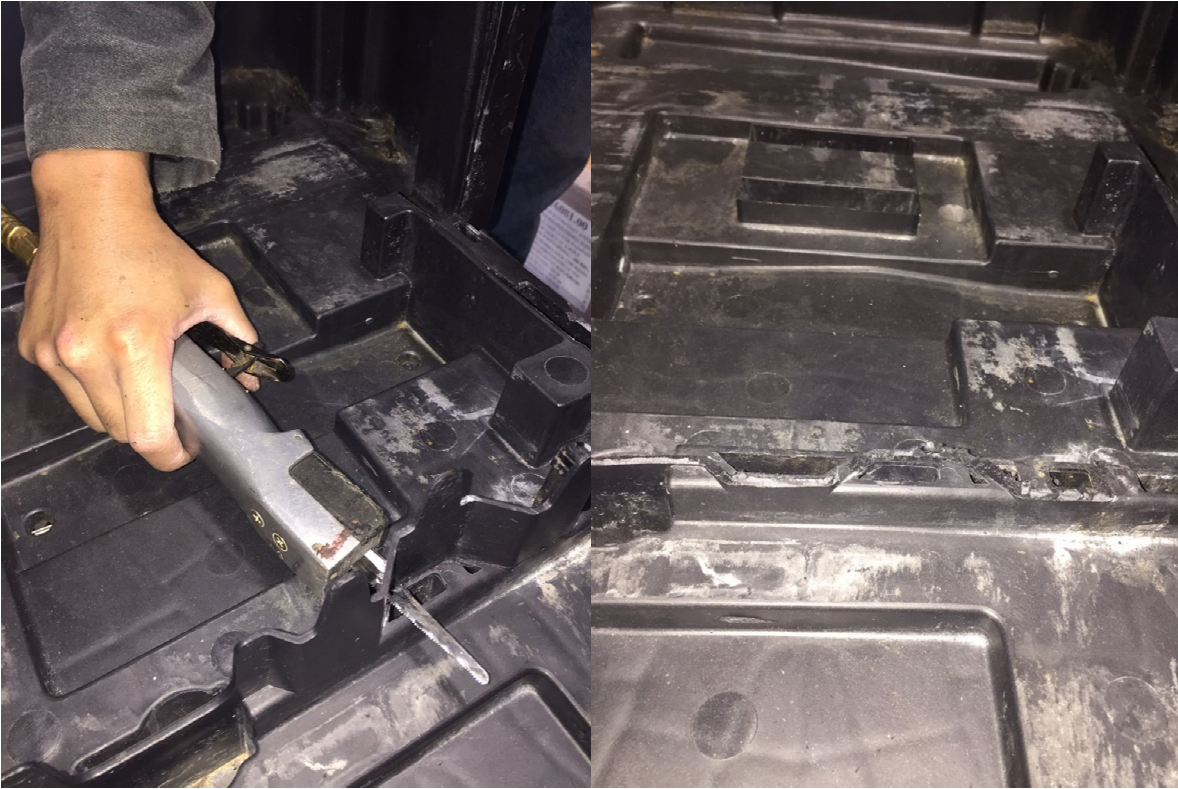

Fig. 6- Raised material removed.
3. Using a saw or cutoff wheel (pneumatic saw is highly recommended), cut the peak raised plastic material flush to the base from which this plastic material is located. (Fig. 6)